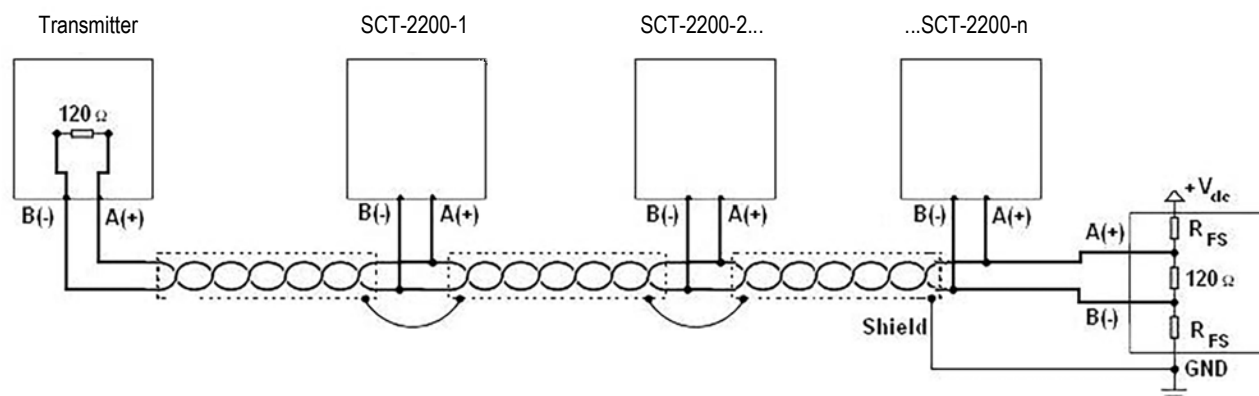

Figure 2-1. Electrical Diagram of RS-485 Connection
2. The shielding can be connected to a single point in the network (as shown in Figure 2-1 on page 3) or at both ends, however, it is important that all the devices have the same potential in order to avoid forming ground rings.
3. Connect two termination resistances equal to the characteristic impedance of the cable (typically 120 Ω , see Figure 2-1 on page 3). Only connect the two devices at the two ends of the ring connection (Example: indicator and last device). The terminal resistance is not supplied with the ports of the indicator.
5. To create a resistive divider which maintains this difference of potential when all the transmitters are disabled, insert in the RS-485 port where the termination resistances are located the polarization or fail-safe resistances (R_{FS} in Figure 2-1 on page 3). The value of these resistances is between 390 Ω and 2.2 k Ω .